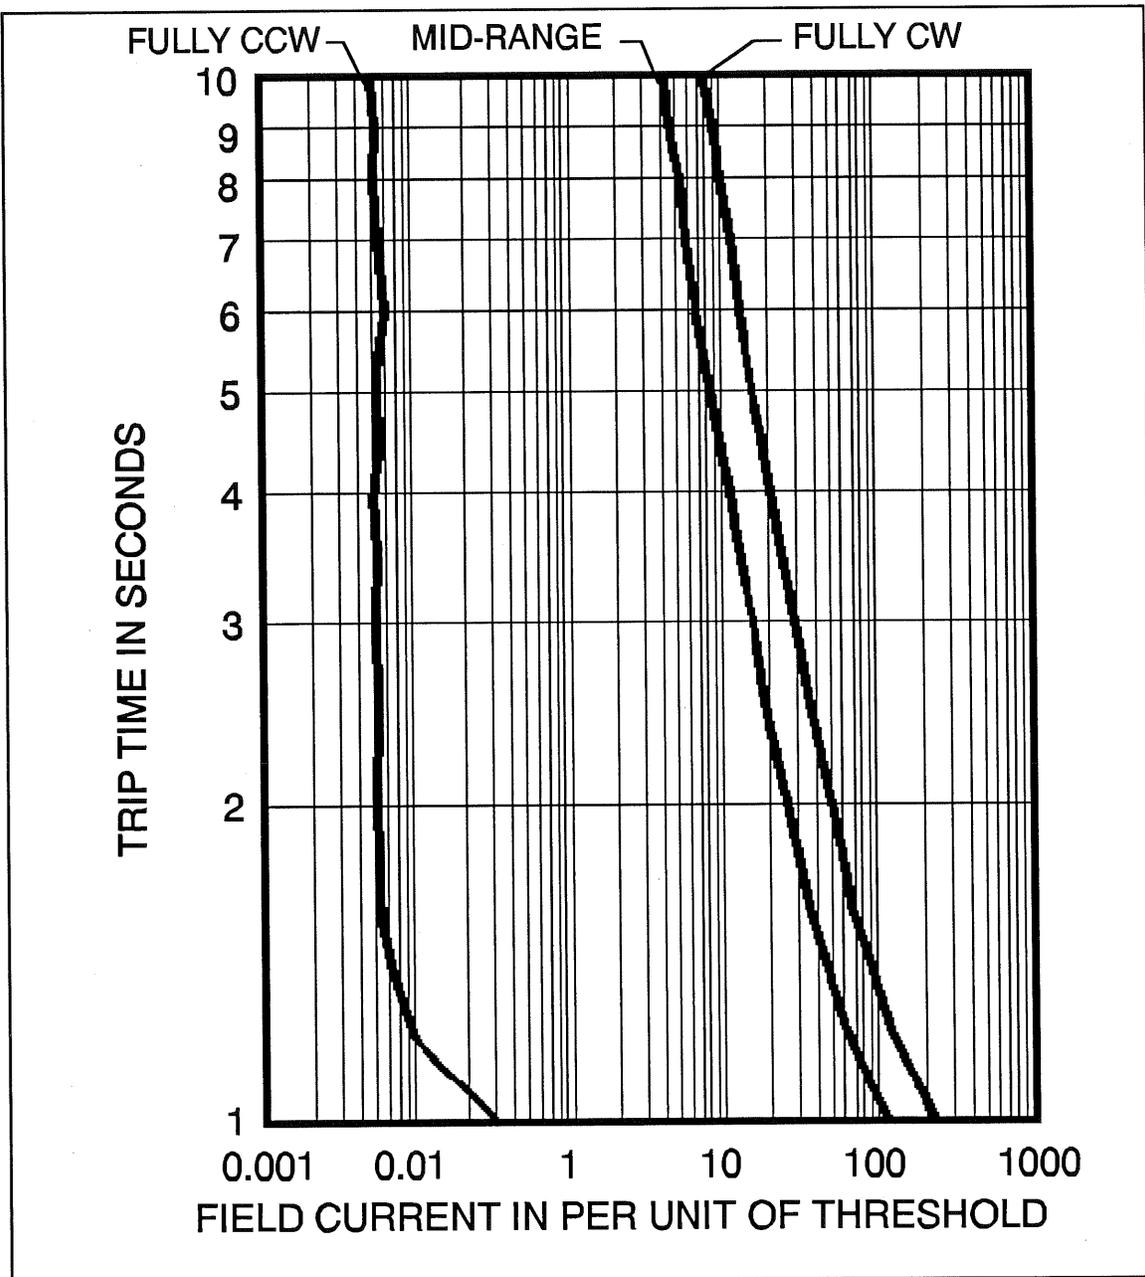

Figure 2-2. Inverse Time Characteristic Curves.
- c. If an inverse time characteristic is desired, the Inverse Time Adjustment is set for the desired time and the Fixed Time Adjustment is set fully counter-clockwise (CCW) to zero time. Figure 2-2 illustrates the inverse time characteristics for three different settings of the Inverse Time Adjustment (fully CW, Mid-Range, and fully CCW).